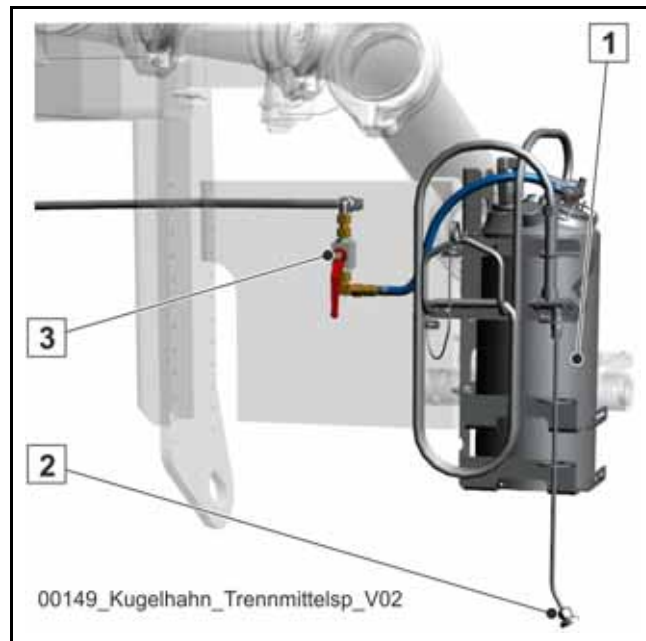

Fig. 631
If available, interrupt the compressed air supply by closing the ball valve (3) (**Fig. 631**). If there is no ball valve, shut down the vehicle.
The special equipment "release agent sprayer", consisting of a pressure tank (1) spray gun(2) and a ball valve (3) (**Fig. 631**) is generally located at the rear of your SCHWING machine.
Caption (Fig. 631)